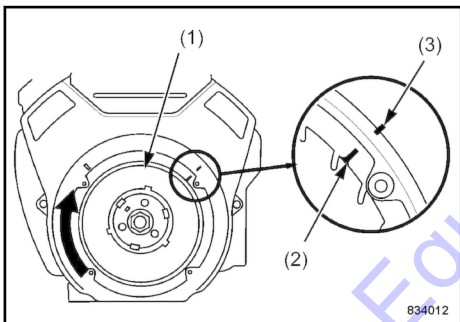

Fig. 94
Turn the flywheel (1) ↪ Fig. 94 clockwise until the marks (2, 3) are in line.